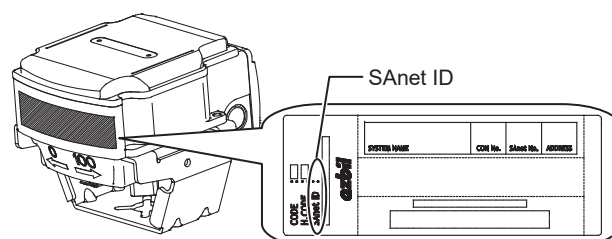

Figure 14. SAnet ID on the product code label
2. With Data Setter or PC-MMI, enter the SAnet ID (on the product code label) and address number to set. The product code label is attached on the side surface of the actuator, as shown in Fig. 14.
In the manual operation mode, even when this product has not been connected via SAnet yet, the operations shown in Table 2 can be performed and checked. Follow the procedure below for the operation check. For the locations of the service pin switch and the rotary switch, see Fig. 14.